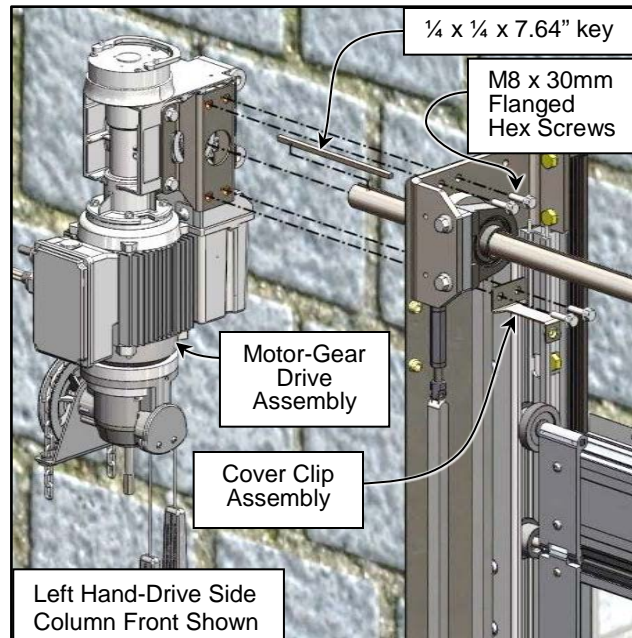

Figure 46
- Identify and locate the motor-gear drive, cover clip assembly,  $\frac{1}{4} \times \frac{1}{4} \times 7.64$  long key, and fasteners. Orient and assemble them onto the drive shaft/ drive side Side Column Assembly as shown. (See Figure 46)
- Align the motor shaft keyway w/ the drive shaft keyway and key so it may be inserted properly. (See Figure 46)